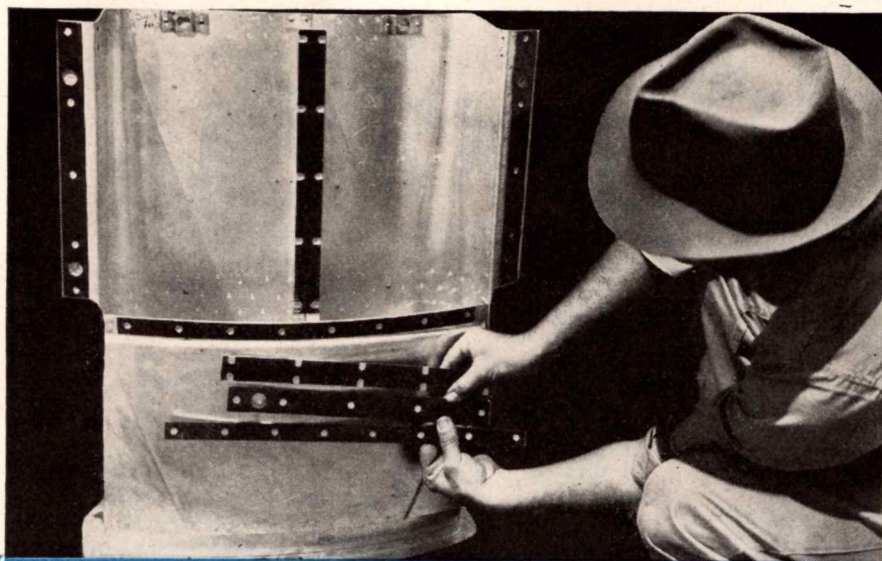
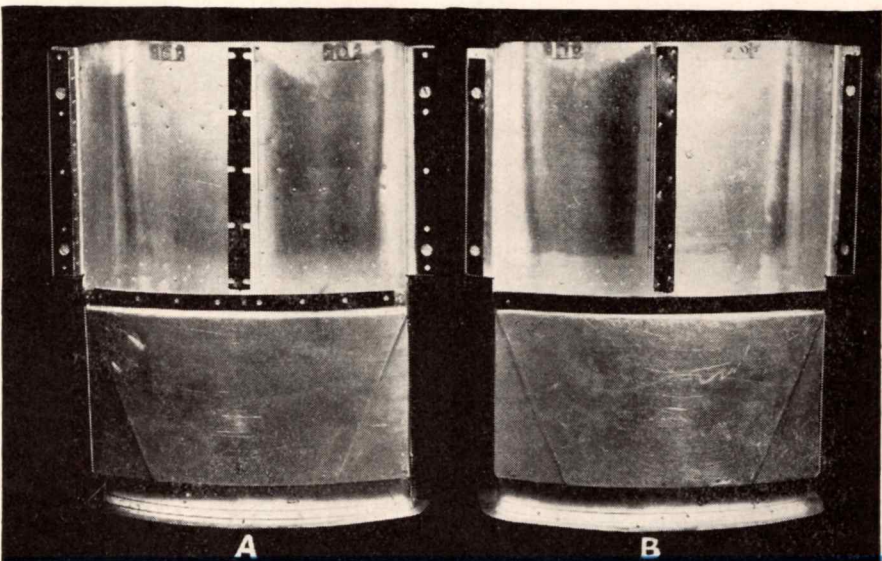

Fig. 4: Several different chafing strips used on a supercharger duct
Fig. 5: (A) Metal-back chafing strips; (B) riveted and cemented strips
Fig. 4 pictures several different chafing strips used on a super-charger duct. Fig. 5 (A and B), illustrates that part which has been equipped with both methods being discussed. (A) shows the use of metal-back chafing strips and (B) pictures the riveted and cemented chafing strips. A comparison of manpower requirements for assembly application of riveting and cold-cemented strips versus welded metal-back chafing strips, for the parts illustrated in fig. 5, revealed a saving of approximately 80%.